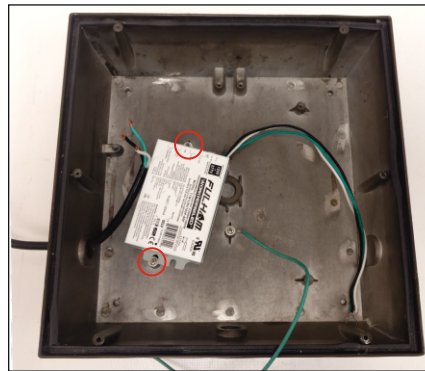

Figure 7
1. Place the LED Driver onto the luminaire housing on the location indicated in figure 7.
2. Secure the LED Driver to the luminaire housing using the two original screws. See figure 7.